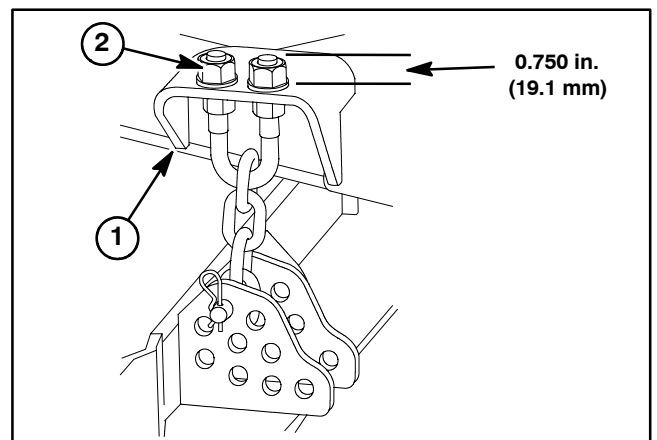

Figure 6
- D. Assemble height-of-cut chain u-bolt so that threaded portion of u-bolt extends **0.750 in. (19.1 mm)** above mounting plate on lift arm (Fig. 6). This dimension is a starting point that might need additional adjustment for deck pitch correction (see step 8 below).